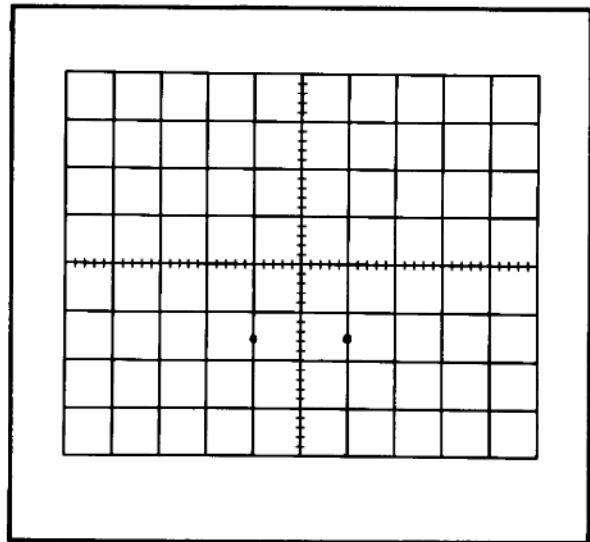

Fig. 6-33. Typical CRT display when checking external horizontal operation.
- b. CHECK—Two dots displayed on screen about two divisions apart (deflection factor about five volts/division; see Fig. 6-33).